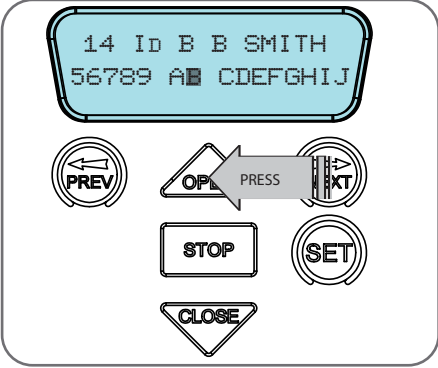

Fig F.7
- a. Press NEXT or PREV to move the cursor. (**Fig. F.7**)